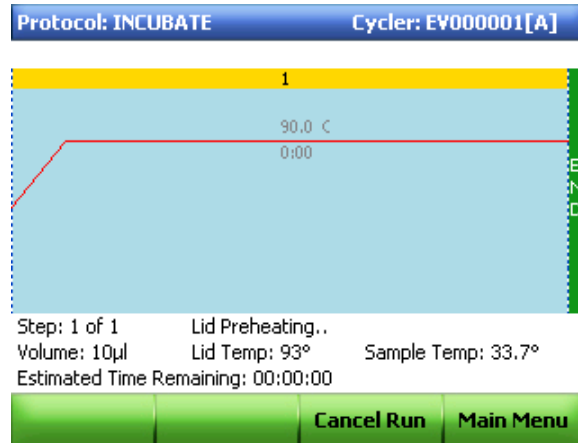

Figure 69. Start the incubation.
3. Press **OK (F1)** twice to start the incubation (Figure 69).